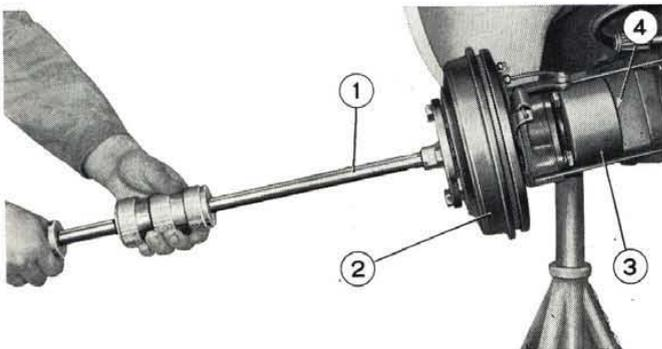

Fig. 259 - Taking wheel shaft part way out.
- affix tool A. 47017 to wheel hub (fig. 259) and work on the wheel hub so to take it part way out;